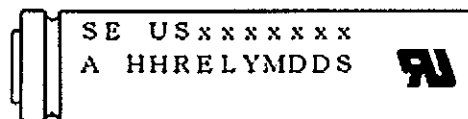

Fig.1
5.2 Trade Mark (Fig.1: USxxxxxx)
5.3 Plant (Fig.1: A for plant code)
5.4 Specification (Fig.1: HH for Cell Type)
5.5 Lot Number (Fig.1 : YMDDS for Manufacturing Date of Cells)
Recognition Mark on the right side of Fig.1